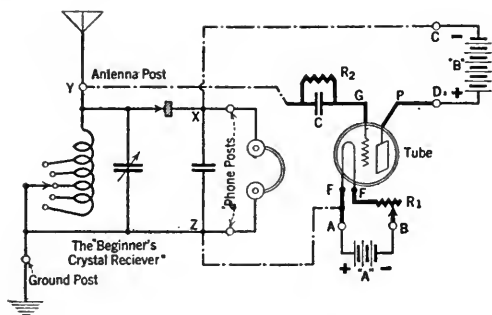

FIG. 2
FIGURE 2 shows how these simple parts are connected together and how they are wired to the crystal set described in this department last month, or to any similar receiver. The heavy lines on the right hand side indicate the connections between the new apparatus. One side of the grid condenser (C) is connected to the grid (G) post on the socket, and the grid leak mounting is connected across the condenser. The grid leak (R2) is clipped into the mounting. The plate (P) binding post on the socket is run to a binding post (D), which, with post C